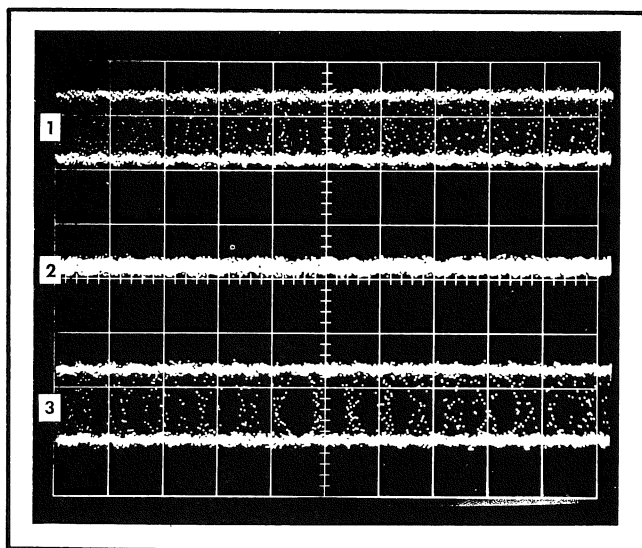

Fig. 5-9. Tangential noise measurement technique, triple exposure.
e. Set the Type 284 Square Wave Amplitude switch to 10 mV. Free run the sweep and refer to Fig. 5-9 for displays of the following tangential noise measurement procedure.
(1) Obtain a display of two traces.
(2) Adjust the variable attenuator until the two traces blend together just to the point at which they appear as one trace.
(3) Change the Type 284 Amplitude switch to 100 mV, 10 times the signal amplitude. The display now has a tangential deflection factor of 300  $\mu\text{V}/\text{div}$ .
The 500  $\mu\text{V}$  tangential display noise limit includes 1.7 graticule divisions (3) of Fig. 5-9. Check that the bottom edges of the two traces are not more than 1.7 divisions apart. Waveform (3) measures as 360  $\mu\text{V}$  tangential noise.
**Determining Tangential Noise Deflection Factor.** The noise displays of Fig. 5-9 have a noise deflection factor based upon the signal amplitude, the sampling unit Units/Div setting, the fact that the final trace separation is twice the RMS noise, and that the tangential noise is 3 times the RMS noise. The square wave signal amplitude that makes two traces appear as one sets the trace separation to twice the RMS noise. The procedure used here then permits a noise deflection factor to be determined by dividing the input mV/div deflection factor by 2 (trace separation is 2 times the RMS noise), multiplying by 3 (tangential noise is 3 times the RMS noise) and then dividing by 10 (the signal amplitude change factor).
d. Set the Type 284 Mode switch to Square Wave Output and the Square Wave Amplitude switch to 100 mV. Refer to Fig. 5-9 for the displays of the following tangential noise measurement procedure.
- (1) Obtain a display of two traces.
- (2) Adjust the variable attenuator until the two traces blend together just to the point at which they appear as one trace.
- (3) Change the Type 284 Square Wave Amplitude switch to 1.0 V, 10 times the signal amplitude. The display now has a tangential deflection factor of 3 mV/div. Refer to step 9 for the method of tangential noise deflection factor determination.